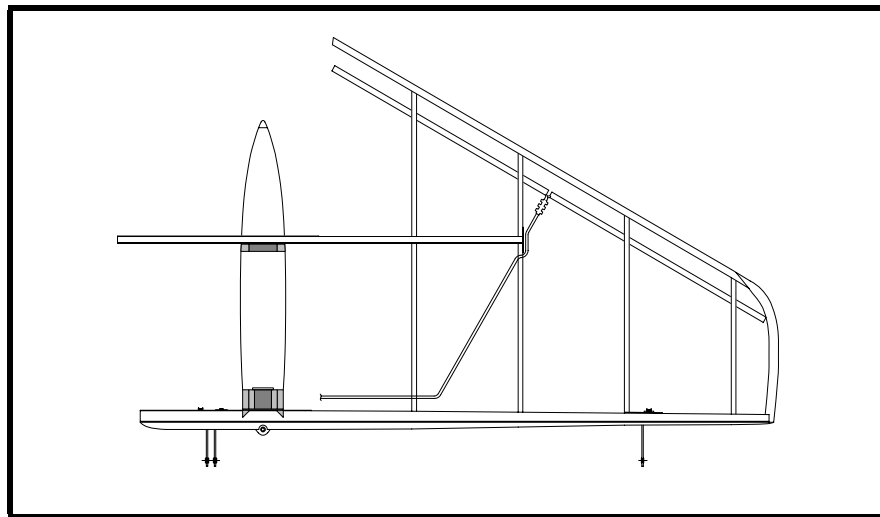

Figure 11
- ❑ It is now time to begin work on the installation of the COM antenna. See Figure 11. See Chapter 14 for the antenna installation for specific details relating to the COM antenna. Lay out the COM antenna on the right skin in pencil. Mark the routing of the coaxial cable along the skin.